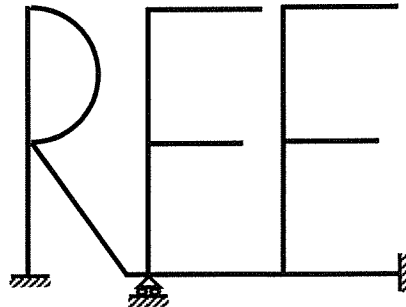
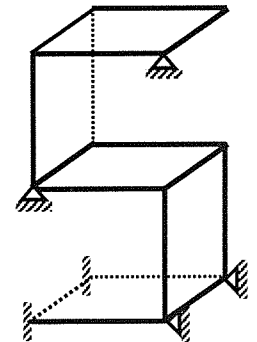

Fig.2
Fig.7
2. Determine the degree of kinematic indeterminacy (**doki**) and show the corresponding deflections and rotations of the 2D frame (**Fig.2**) and 3D frame (**Fig.7**) for the following cases